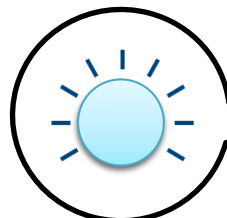

Fig.5
- The blue led of the heater starts flashing Fig.5